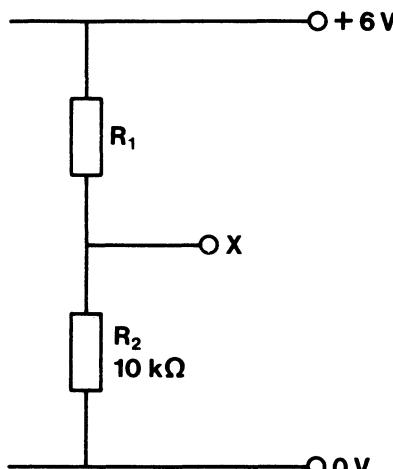

FIG. 3.20
16. In the circuit of Fig. 3.20 point X is to be kept at a steady potential of +1 V by the resistances  $R_1$  and  $R_2$  connected across the low resistance 6 V power supply.  $R_2$  is a  $10\text{ k}\Omega$  resistor.